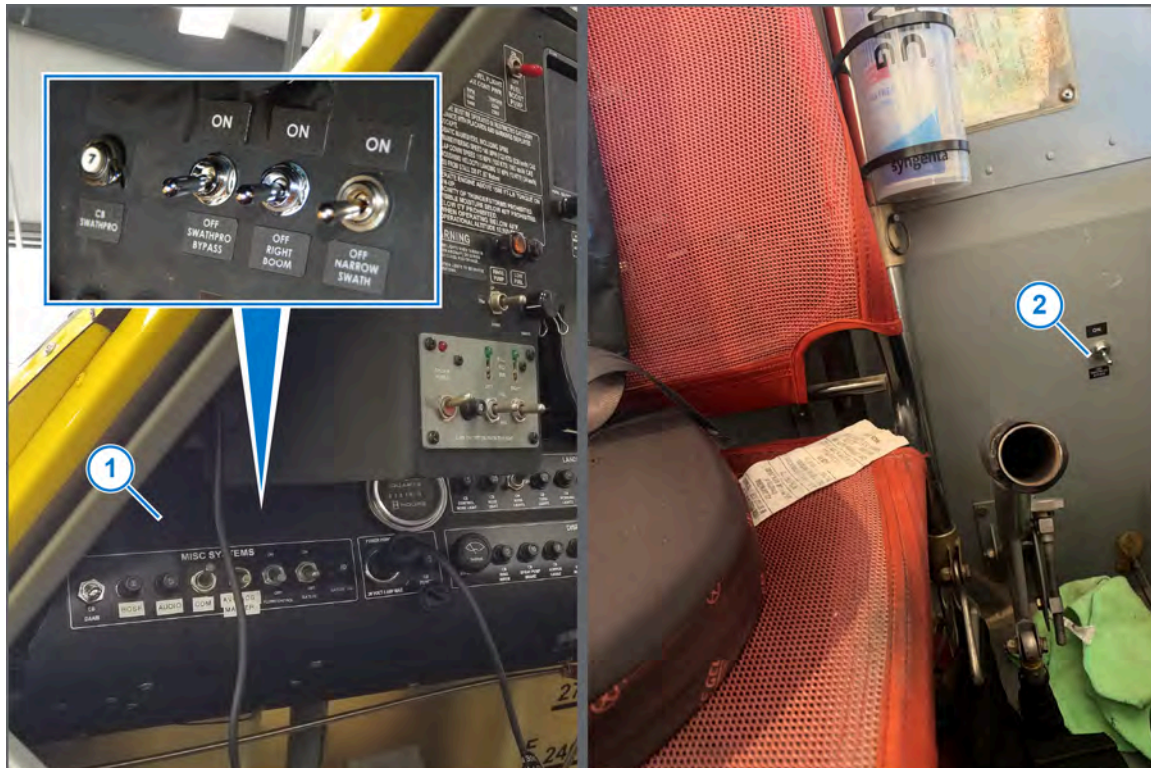

Figure 35: Switch Location Recommendations
- Mount all of the switches on the left side of the lower instrument panel (Figure 35, Item 1) in the cockpit.
- The bypass switch mounted on the left side back wall aft of the spray handle (Figure 35, Item 2) or the left side console.
14. Install the on and off labels, as shown in Figure 35.